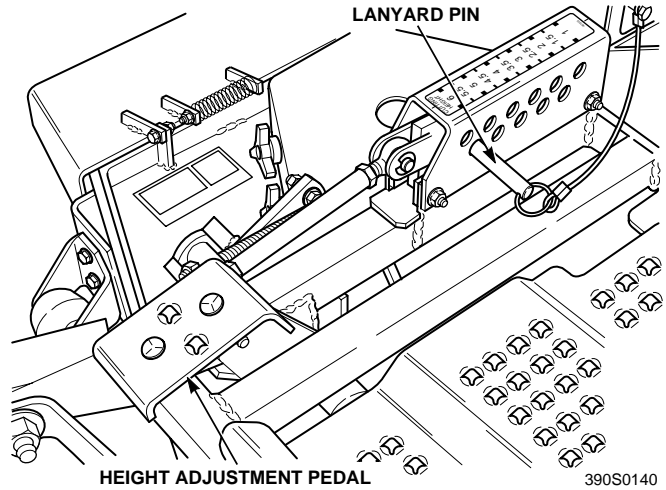

Figure 4-6 Adjusting Cutting Height
1. Push the cutting height adjustment foot pedal all the way forward using your right foot until it locks in place. (Figure 4-6).
2. Insert the lanyard pin into the cutting height index at the desired cutting height. Push forward on the deck lift foot lever, hold in place and lift up on the deck release lever, (Figure 4-7). Slowly release the foot pedal. A deck height decal is located on the cutting height index as an aid in adjusting the deck to the desired height. (Figure 4-6).